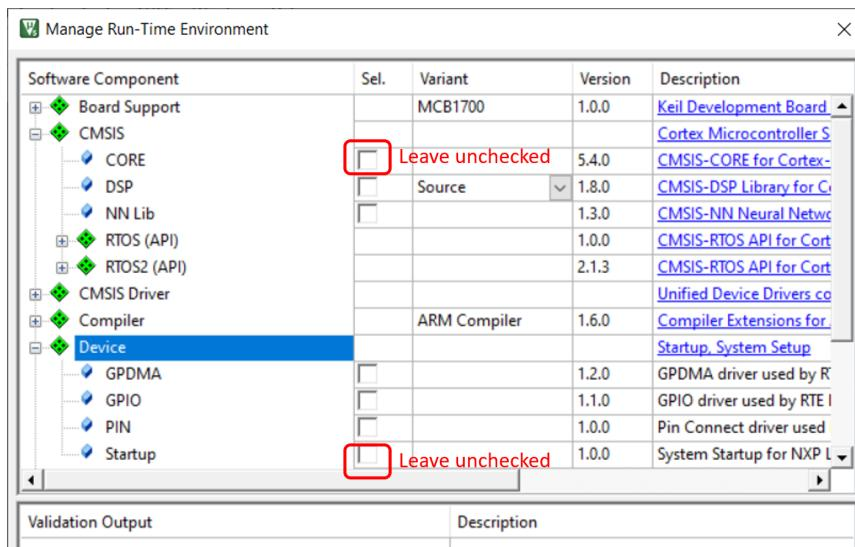

Figure 7.41: Directory Structure of a Multi-Project Workspace. The HelloWorld directory layout is omitted.
big difference is that when asked for configuring the run-time environment, do not select anything, directly click the OK button (see Figure 7.41). Here are the steps.
- Do not select anything in the “Manage Run-Time Environment” pop-up window. Directly click the OK button. Compared with the HelloWorld application creation, the difference is that we should leave the CORE and Startup checkbox unchecked, which is the default setting (see Figure 7.41).